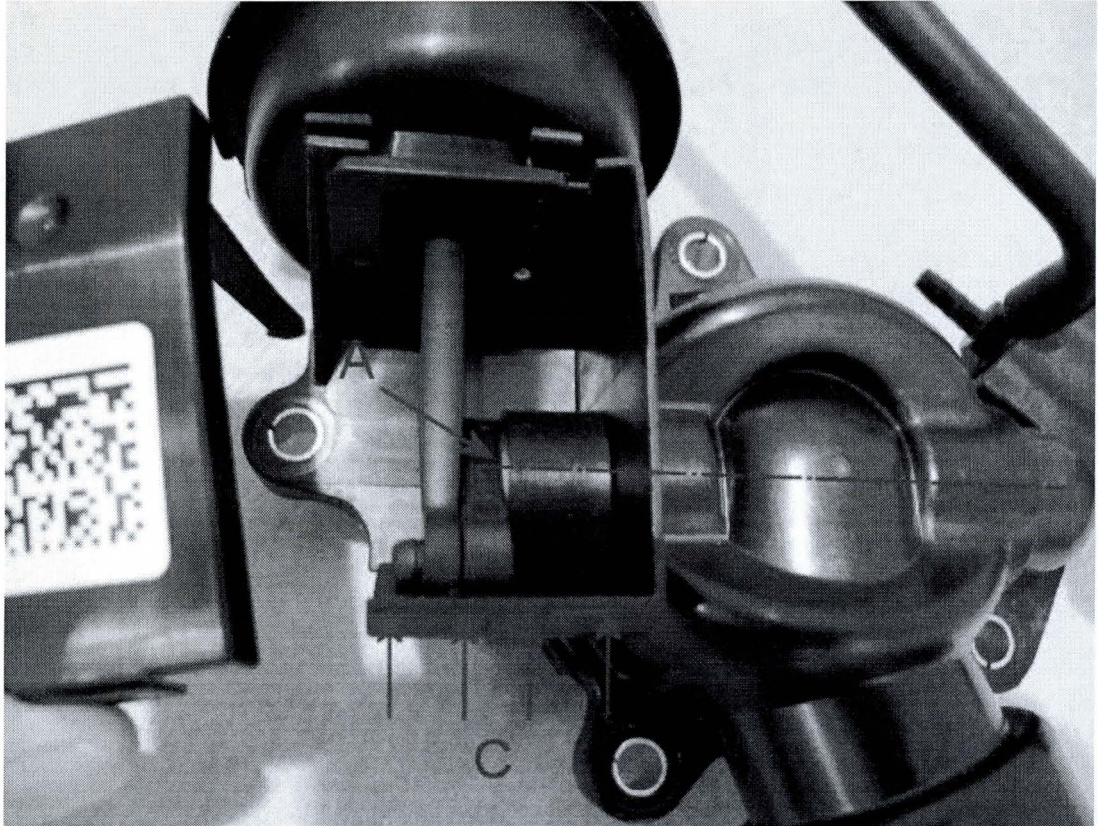

Figure 2
2. If the seal is leaking it will discharge a small amount of coolant from the valve spindle (A) into the actuating arm housing, this will subsequently be visible on the outside lower edge of the housing cover at point 'C'. Figure 2 shows the actuating arm housing cover removed. This is to aid understanding and clearly describe the leak path. It is not a requirement of this procedure to remove this cover. Note: the valve body in figure 2 is not fully representative of the series production part.
3. The initial inspection is carried out using a mirror. Note: no parts have to be removed for the inspection. Position the mirror so as to enable the underside of the lower edge of the housing cover (B) to be viewed at point 'C'. Check for the presence of coolant on this face (see Figure 2 and 3)